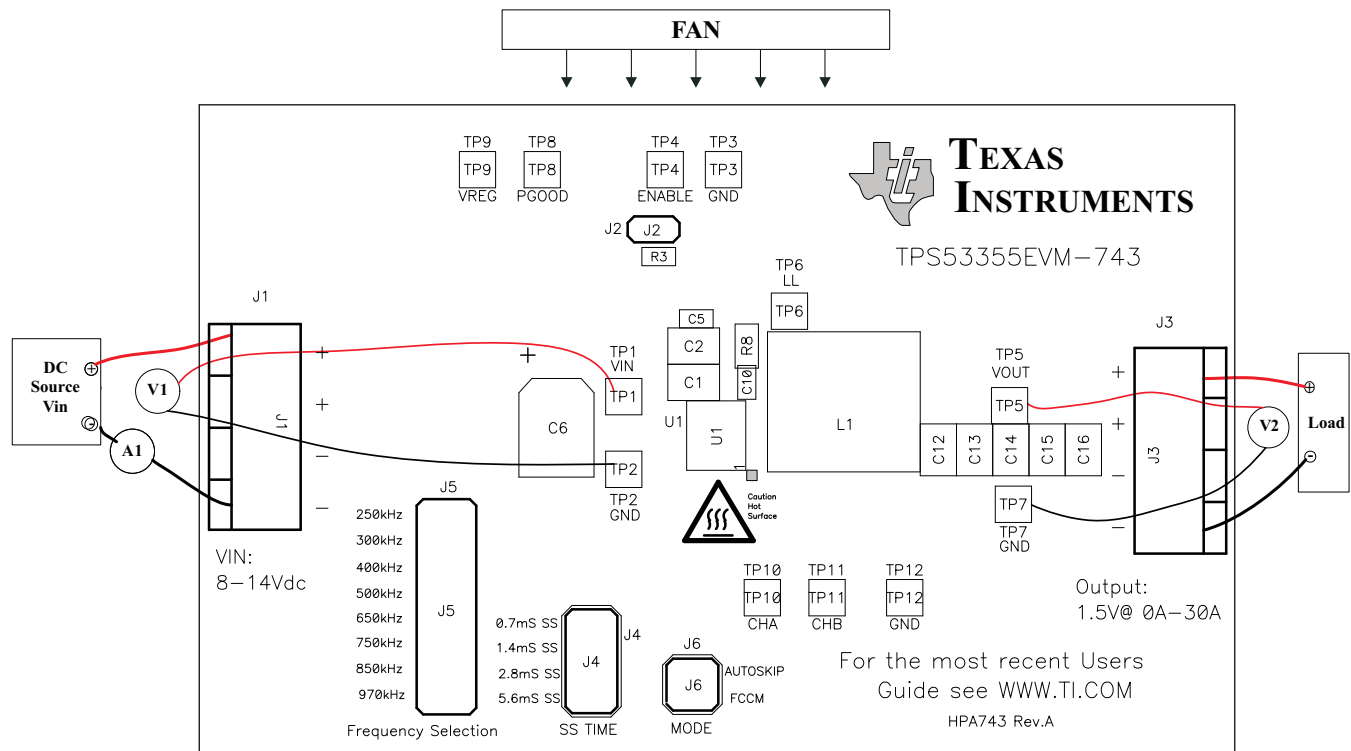

Figure 3. TPS53355EVM-743 Recommended Test Setup
Voltage Source: The input voltage source V_{IN} must be a 0-V to 14-V variable dc source capable of supplying 10 Adc. Connect V_{IN} to J1 as shown in Figure 3.
Figure 3 is the recommended test setup to evaluate the TPS53355EVM-743. Working at an ESD workstation, ensure that any wrist straps, bootstraps, or mats are connected referencing the user to earth ground before power is applied to the EVM.
1. Prior to connecting the dc input source V_{IN} , it is advisable to limit the source current from V_{IN} to 10 A maximum. Ensure that V_{IN} is initially set to 0 V and connected as shown in Figure 3.
Place a fan as shown in Figure 3, and turn it on, making sure that air is flowing across the EVM.
1. Set up EVM as described in Section 4 and Figure 3.
1. Set up the EVM as described in Section 4 and Figure 3.